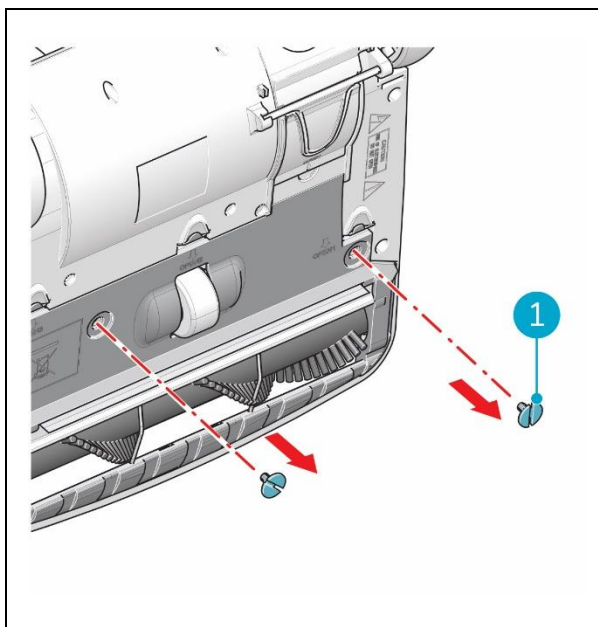

Figure 24
2. Remove the metal screws (Figure 24, pos 1).
10. Tighten the metal screws (Figure 24, pos 1).